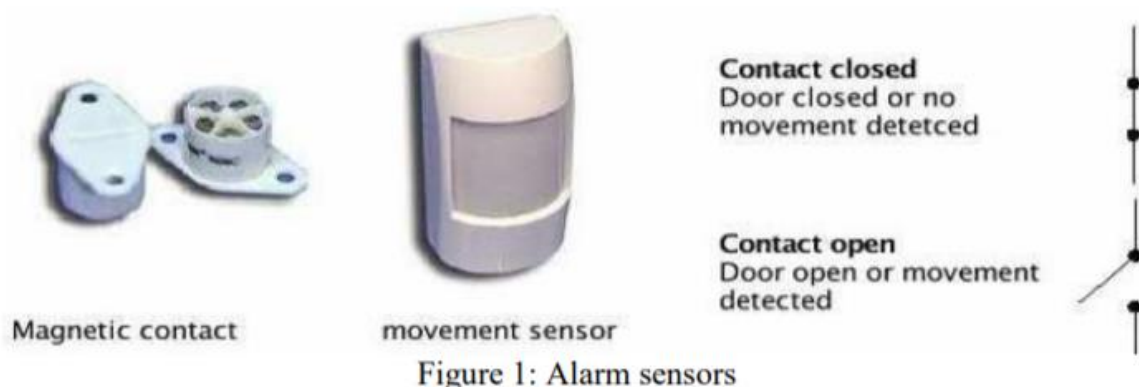

Figure 1: Alarm sensors
In the case of the sensors, they all contain switches that are “closed” circuit under normal circumstances. This type of switch is known as a Normally Closed (NC) switch, the converse is known as Normally Open (NO). Magnetic contacts are used to detect when doors and windows are opened. When a door is opened a magnet is moved away from the reed switch which causes the switch contacts to open. Likewise, when a movement sensor is triggered or a pressure mat depressed the circuit is broken (the switch is opened), see Figure 1. The opening of a contact can be detected by using one of the microcontroller's parallel port inputs, connected to the top of the switch whose lower end is connected to GND. The top of the switch is also connected through a resistor to 3.3v (V+). When the switch is closed the port, input is connected to 0v (GND), and it will be pulled-up to 3.3v (V+) by the resistor when the sensor's switch opens. Therefore, the microcontroller input is logic low (0v) when a door is closed / there is no movement, and logic high (3.3v) when the sensor is activated. The alarm controller must detect these events and respond as specified later in this document. In this assignment the sensors are emulated using normally closed push to break switches.
For the students with Experience/Interest in embedded system programming an alternative/complementary assignment is available. If you feel you are interested in doing more and tasks in the current assignment you can **volunteer** for this assignment. This alternative work is on the design and development of an embedded system for the microrobotics system we are currently developing in the University of Essex (Fig. 1).